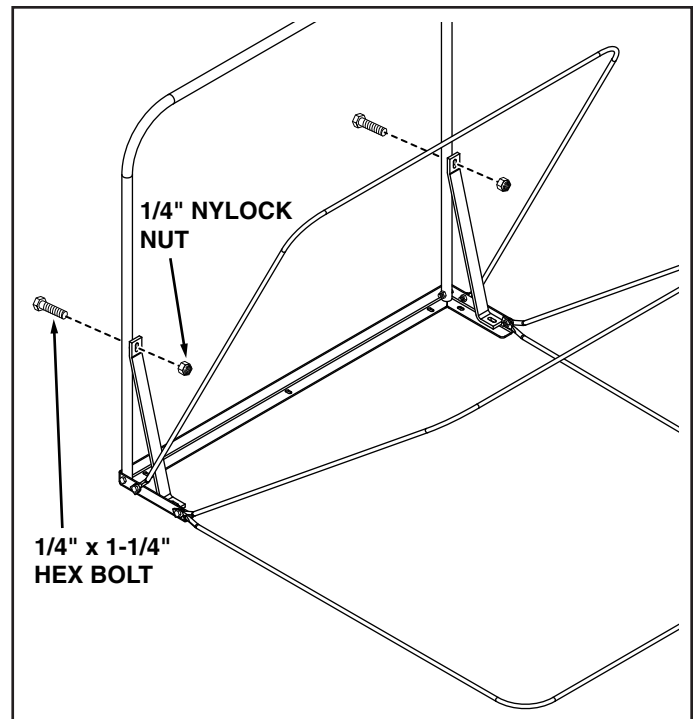

FIGURE 26
10. Attach the braces to the front support tube using two 1/4" x 1-1/4" hex bolts and 1/4" nylock nuts. **DO NOT TIGHTEN YET.** See figure 26.